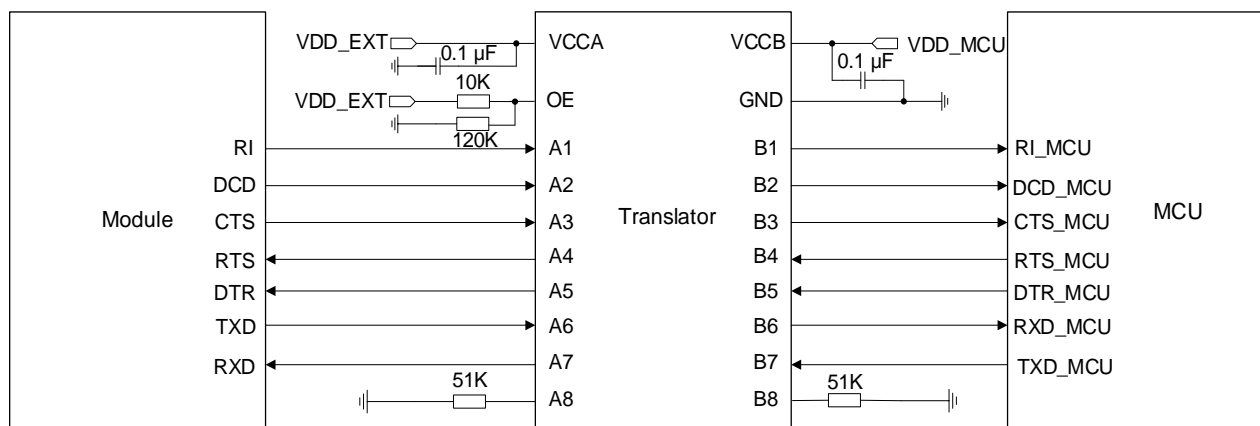
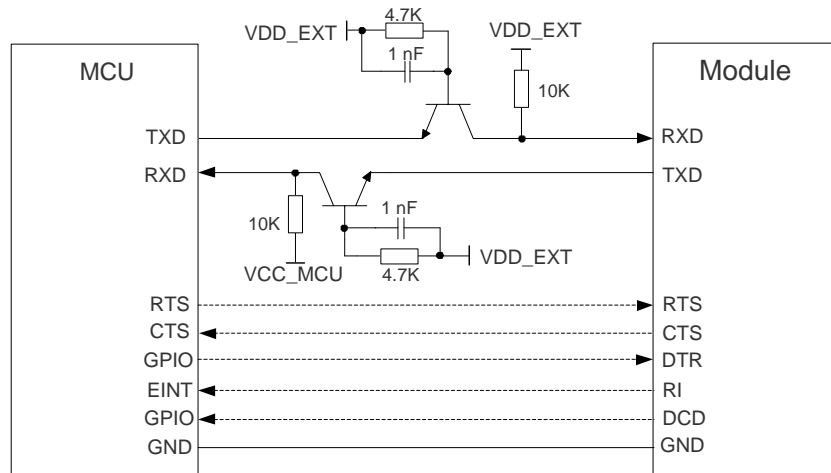

Figure 20: Reference Circuit with Translator Chip (Main UART)
Figure 21: Reference Circuit with Transistor Circuit (Main UART)
3. The level-shifting circuits (**Figure 20** and **Figure 21**) take the main UART as an example. The circuits of the debug UART and the Bluetooth UART are connected in the same way as the main UART, but the Bluetooth UART is connected to the Wi-Fi&Bluetooth module.